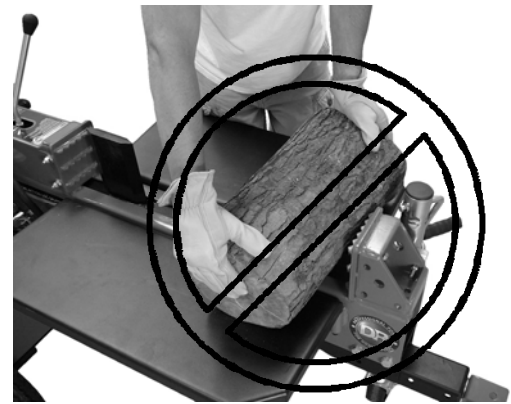

Figure 24
- Never attempt to split wood across the grain. The Log Splitter was not designed for cross-grain splitting. Doing so could damage the Log Splitter and may cause personal injury (*Figure 24*).